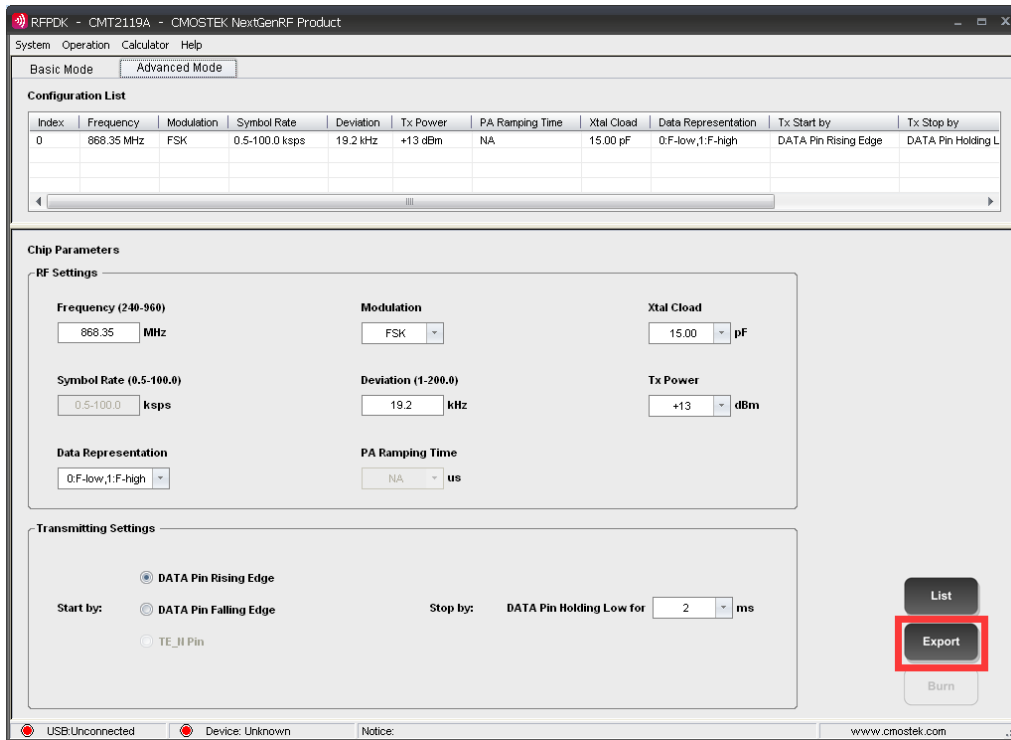

Figure 26. Export Button on the RFPDK
- As a specific feature could be related to several registers, in order to change the feature correctly, the user is recommended to find out the corresponding registers by Export function on the RFPDK, as shown in Figure 26. For more RFPDK details, refer to "AN103 CMT211xA-221xA One-Way RF Link Development Kits Users Guide". An example of changing the frequency from 433.92 MHz to 868 MHz is listed below.